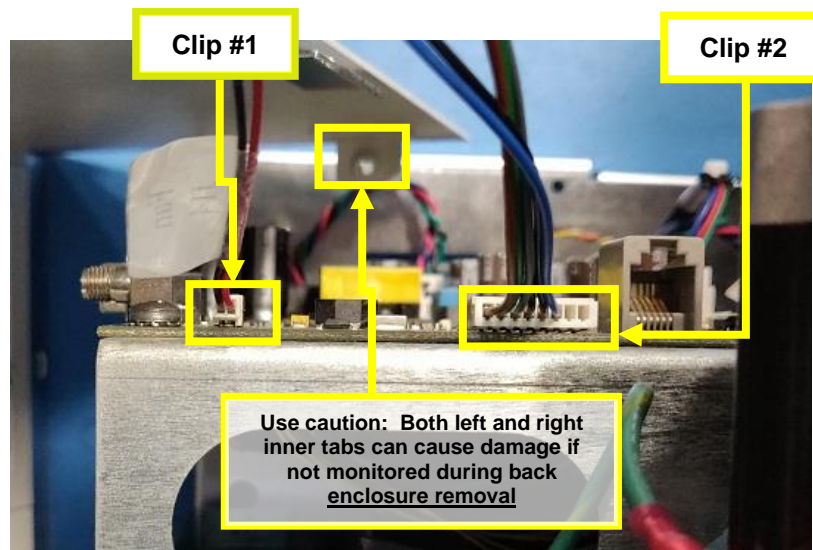

Figure 23
24. Once you have the back and front enclosures split as shown above, you will see two sets of wires leading from the printer to the main electronics board. Disconnect these two wire sets from the top of the main board. Figure 23